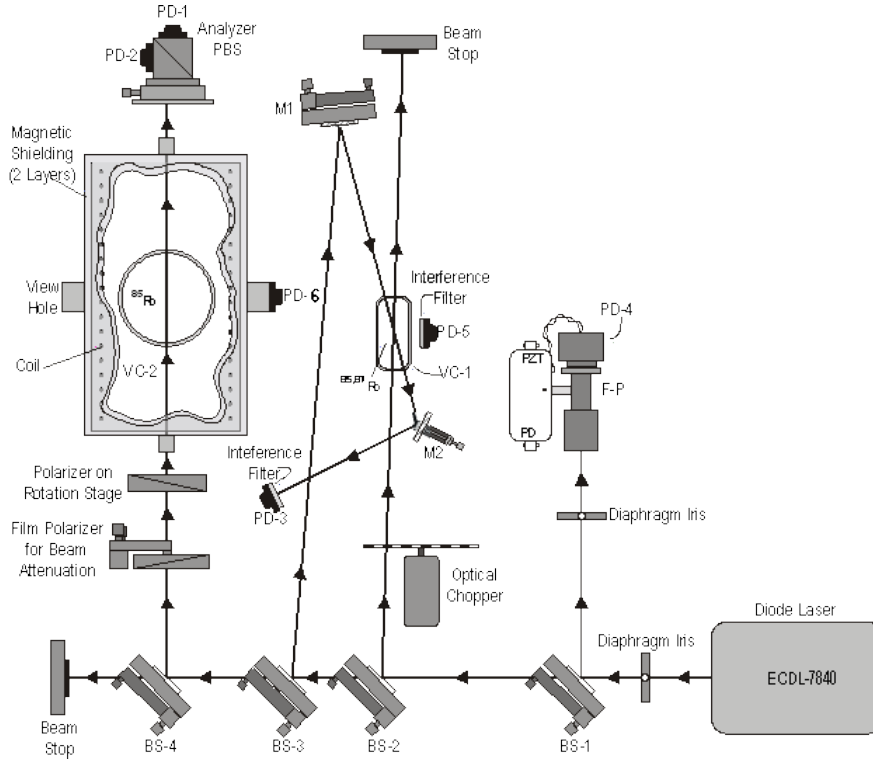
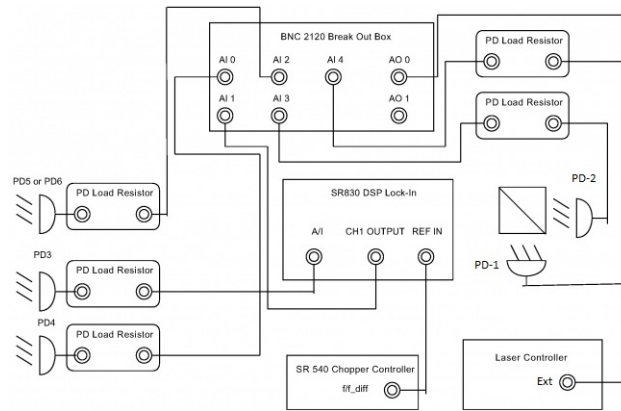

Figure 10: Diagram of the optical set-up
Figure 12: Block Diagram of the electrical connections for the Diode Scan part.
The optical set up for this experiment is fairly simple. The laser beam coming from the ECDL-7840R LASER passes through a Diaphragm Iris and is split into several beams so that we can set up all three parts of the experiment using one beam at all times. The splitting of the beam is done using the beam splitters. The beam splitters in our lab are just pieces of microscopic cover glass attached to the adjustable mirror mounts. The optical set up for this experiment is shown in the Figure 10. As you read this section, refer to both the diagram in Figure 10 and also the actual optical set up on the table. Keep in mind that as you follow the actual setup, you must be careful not to touch anything. Even slightest movement of the mirrors, beam splitters and other parts will result in misalignment of the experiment not to mention that you will leave fingerprints all over the mirrors and beam splitters. If that happens, you will create more tedious work for yourself and others trying to align the components.
The first beam splitter (BS-1 as labeled in Figure 10) is used to split the incoming laser beam into two beams. One of the beams will be used for the Fabry-Perot spectrum analyzer. The other beam will be split by BS-2 and BS-3 to be used in Laser induced fluorescence and Doppler-free saturation spectroscopy. Finally, the laser beam coming out of BS-3 will be split again by BS-4 for the magneto-optical part of the experiment. The optical setup of each individual part of the experiment will be discussed in greater detail in the procedure section. Roughly speaking, the laser beam coming out of the BS-1 for the Fabry-Perot part of the experiment passes through the Diaphragm Iris and goes into the Fabry-Perot spectrum analyzer. The output of the spectrum analyzer is connected to the photodiode sensor (PD-4). The laser beam coming from BS-2 for the laser-induced fluorescence and Doppler-free saturation spectroscopy part of the experiment passes through the optical chopper and then through the center of a Rubidium cell. A second beam coming from BS-3 is reflected by a mirror, M1 as shown in Figure 10. The reflected beam also passes through the rubidium cell but in the opposite direction. This beam is then reflected by another mirror, M2, and is sent to a photodiode sensor, PD-3. Another photodiode sensor, PD-5 is placed next to a rubidium cell as shown in Figure 10. Finally, in the magneto-optical part of the experiment, the laser beam coming from BS-4 is passed through two polarizers. It is then passed through another rubidium cell that is placed inside magnetic coils (the cell with coils is shielded). The laser beam exits the rubidium cell and enters the polarimeter (PBS) that splits the beam into two. The two beams enter two photodiode sensors, PD-1 and PD-2. On the side of the shielded cell with coils is located another photodiode, PD-6.
All six photodiode sensors are connected to photodiode load resistors. The PD-5 used in the Diode Scan section of the lab is connected to a  $1\text{M}\Omega$  PD Load Resistor. The output of that load resistor is then connected to AI 2 input of the NI BNC 2120 Breakout Box (located behind the computer screen, you should be familiar with this DAQ box from 111a). The BNC 2120 Breakout Box is used to input BNC cable data to the DAQ card installed in the computer. See the diagram of the electrical connections in Figure 12 and list of connections in Table 1. Figure 12 shows the connections for the Diode Scan part of the experiment and B-Field scan, although all connections are not used for both parts.
Referring to Figure 12, you can see that the PD-4 is connected to the  $100\text{k}\Omega$  Load Resistor whose output is connected to AI 0 of the Breakout Box. The PD-3 is also connected to  $1\text{M}\Omega$  Load Resistor whose output will be connected at some point of the experiment to SR830 DSP Lock-In amplifier (do not connect the PD Load resistor to the Lock-in yet). Lock-in amplifiers are used to detect and measure very small AC signals. Accurate measurements can be made even when the small signal is obscured by noise sources. Lock in amplifiers use a technique known as phase-sensitive detection to single out the component of the signal at a specific reference frequency and phase. Noise frequencies other than the reference frequency are rejected and do not affect the measurement. In our experiment we will connect Channel 1 Output of the Lock-in to the AI 1 Input of the Breakout Box via Cable 2. (The switch for the lock-in amplifier is in the back of the unit). The Ref In of the Lock-in is connected to the SR 540 Chopper Controller's "f"/f diff Input. The SR 540 Chopper Controller controls the optical chopper that chops the laser beam coming from BS-2. The PD-2 is connected to the  $100\text{k}\Omega$  Load resistor whose output goes to AI 4 of the Breakout Box. The PD-1 is also connected to the  $100\text{k}\Omega$  Load Resistor whose output is connected to AI 3 of the Breakout Box.
4. Check all connections between the laser system and other components shown in Figure 10 and Figure 12. They should all be in place, but check them anyway. Again, be careful not to touch the optical instruments. It is very difficult to line up the optics! Locate the experiment setup Figure 10 and print it out to follow the beam path.
7. Checking for stray beams is done by using the IR Viewer and a white piece of paper or business card. If the IR Viewer is not in the room, ask a staff person to locate it. The IR viewer is blue in color and you use it with your goggles on. Using the paper card follow all of the beam paths through the Magneto Optical setup section (see Figure 10). Note if the beam strays from its intended path. It should go through the lenses, beam splitters, and reflect from mirrors, but should NOT hit or reflect off of anything else (including the mounts) on the optical table. This laser beam is hazardous to your eyes if they are unprotected as you cannot see the laser light. Keep the goggles on at all times for your safety.
As shown on the diagram of the optical set-up (Figure 10), small fractions of the laser beam are split with beam splitters mounted on adjustable mirror mounts. The first beam splitter directs laser light through a scanning confocal Fabry-Perot interferometer. Reprints for this lab contain a technical memo on Fabry-Perot interferometry written by Burleigh Instruments - a commercial manufacturer of F-P spectrum analyzers. In this experiment, we use a homemade F-P.
9. In order to observe the transmission pattern of the F-P analyzer, check to see that the appropriate connections are made. Everything should be already there, but check it anyway. As shown on the diagram in Figure 12, the photodiode (PD-4) output of the F-P analyzer is connected to a photodiode 100 k $\Omega$  Load resistor. (The circuit is described in Photodiode Circuit). The output of the PD Load resistor is connected to the AI 0 input channel of the DAQ board (the BREAKOUT BOX). Connect the AO 0 from the Breakout Box to the Ext on the back of the ECU. The BNC cable from AO 1 can be left disconnected. Make sure the laser beam passes straight through the F-P spectrum analyzer. If it does not, you need to align it using the night vision viewer or the IR card. Be very gentle when aligning the optical instruments. When aligning the optics, use Figure 10 as your guide. Make sure you understand where the laser beams must enter and exit.
- Our goal now is to observe laser-induced fluorescence from Rb atoms in a vapor. Looking at the diagram in Figure 10, we are going to use the laser beam that has passed through beam splitter BS-1. The following is already set up on the optical table and all you need is to check that everything is in place. Please refer to the Optics Tutorial. Do not dismount any of the components from the table and try to avoid touching the optical instruments unless you are in the process of aligning the beam.
To align the laser beam there is no right or wrong way to do it. It can be very frustrating procedure, but do not despair. Please refer to Appendix IV about optics. Here are few tips on how to align the laser beam for this part of the experiment. Start with the probe beam from BS-3. Block off the pump beam from BS-2 for now by inserting a piece of paper in its path, so this beam does not get confused with the probe beam. Position the probe beam coming from BS-3 in the center of the round mirror M-1. Use the IR (infrared) Card to see where the beam is. The night vision viewer can be helpful in position the beam exactly. Keep in mind that the focal length of the NVT is about 5 to 6 feet, so you need to stand far from the object you want to view. Adjust the mirror mounts to position the reflected beam near the vertical edge of the square mirror M-2. The beam should be centered in the vertical direction. Now adjust the position of the vapor cell VC-1, so the probe beam goes approximately through the centers of the input and output windows. Since there are no convenient adjustments of the mirror M2, adjust the position of the photodiode PD-3 until the beam is centered on it. Now, remove the piece of paper blocking the BS-2 and cover the beam from BS-3 to avoid confusion. Position the beam from BS-2 so that it passes directly through the center of the vapor cell (you can turn off the optical chopper for now but don't forget to turn it back on). It is helpful to use IR card to position the beam and then view it with the night vision viewer. The beam should go straight through the cell and fall onto the beam stop as shown in the diagram in Figure 10. Now, remove all the pieces of paper blocking the beams. Make sure the two beams intersect inside the vapor cell. This completes the alignment of the probe beam.
- Direct the laser beam from BS-4 into the magnetic shield assembly and the balanced polarimeter (see Figure 12). Make sure that the beam is centered both on the input and the output of each element. It should be possible to achieve this by adjusting the beam splitter BS-4 and the relevant optical and magnetic shield assembly mounts.